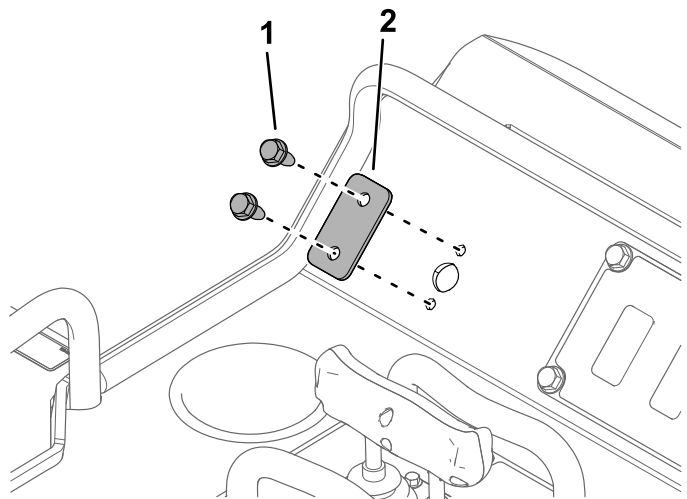

Figure 2
1. Remove the 2 thread-cutting screws and plate from the control panel (Figure 2). Discard the plate.